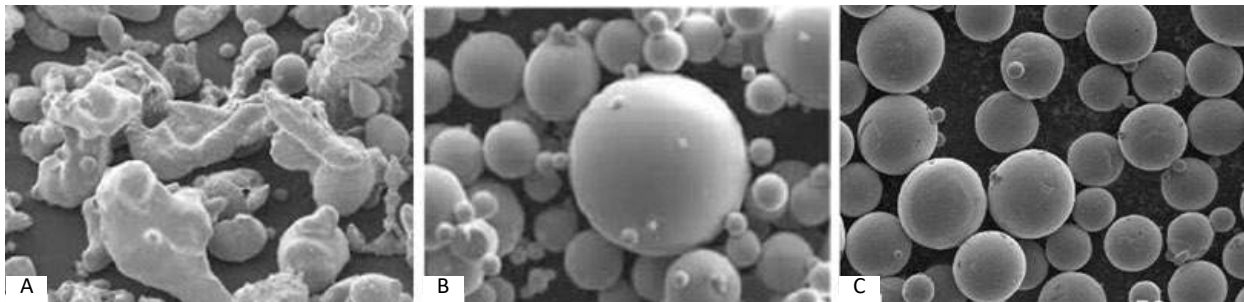

Fig. 4 Representative morphologies obtained from water atomisation (A), gas atomisation (B) and plasma atomisation (C) [3]
atomisation (WA) produces very non-spherical particles, whereas gas and plasma atomisation (GA and PA) techniques produce more spherical powders (Fig. 4). There are other powder production methods, but we will discuss the most common.